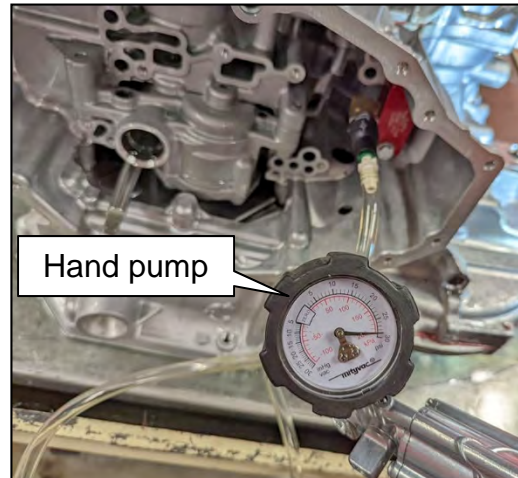

Figure 29
- b. Connect the hand pump from EVAP Pressure Test Kit (J-42909) to the Clutch Engagement Tool (J-52273) and pump to 30 PSI (Figure 29).
**IMPORTANT:** Proper pressure has been achieved when the CVT belt moves while the driver side (LH) front wheel is rotated and the CVT is in NEUTRAL with the passenger side (RH) front wheel secured.